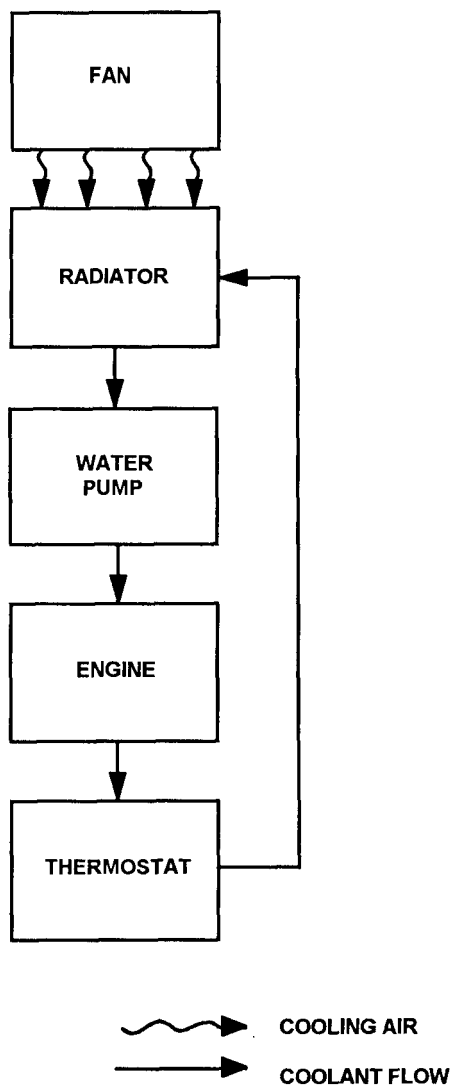

Figure 1-8. Engine Cooling System
**1-16 ENGINE COOLING SYSTEM.** The engine cooling system (Figure 1-8) consists of a radiator, hoses, thermostat, water pump, a belt driven fan, cooling jacket and oil cooler. The water pump forces coolant through passages (cooling jackets) in the engine block and cylinder head where the coolant absorbs heat from the engine. When the engine reaches normal operating temperature, the thermostat opens and the heated coolant flows through the upper radiator hose assembly into the radiator tubes. The cooling fan circulates air through the radiator where the coolant temperature is reduced. The coolant high temperature indicator is an indicator lamp with a red lens. It illuminates when the coolant temperature rises above  $217 \pm 3^\circ\text{F}$  and the high coolant temperature protective device actuates. The coolant temperature gauge is a dial indicator type gauge which is calibrated in degrees Fahrenheit from 120 to 240. Normal operation indication is  $170^\circ\text{F}$  ( $76.7^\circ\text{C}$ ) to  $200^\circ\text{F}$  ( $93.3^\circ\text{C}$ ).